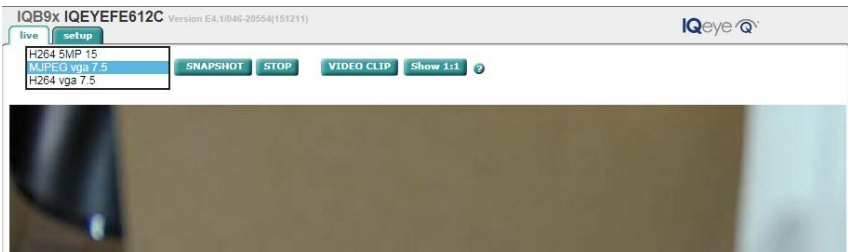

Figure 13
5. To prepare the camera to serve the H.264 stream, select “H.264” from the drop-down menu (Figure 13; IE browser only). To view the H.264 stream in full screen mode (without ‘Live’ page controls), double click on the video window. Double-click on the video window again to return back to the ‘Live’ page.